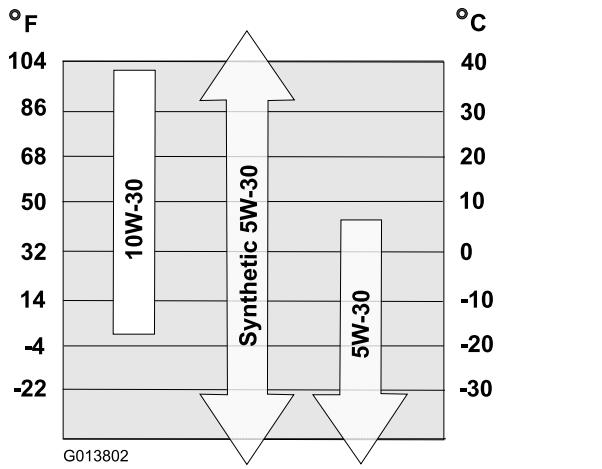

Figure 22
6. Use Figure 22 to select the best oil viscosity for the outdoor temperature range expected:
Oil viscosity	Refer to Figure 22.